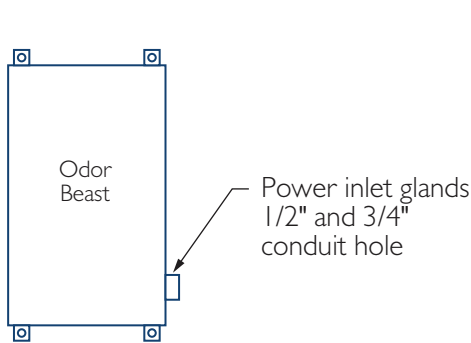

FIGURE 4
1. A weatherproof junction box with disconnect switch should be installed within 4 feet of the unit. A flexible metal conduit or SO cord should be installed between the J-box and the power inlet (see Figure 4).